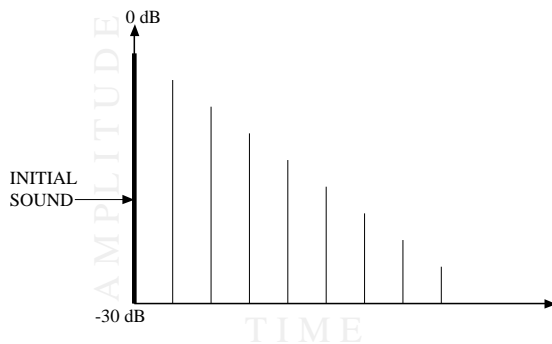

Fig 3-9
Feedback (Tap #): Controls the amount of feedback, or number of repeats, in the delay line. In multi-tap delays, this Parameter controls the feedback amount of the last tap in the series. Variable from 0 (Off) to 100%. See fig. 3-9.
**Repeat Hold:** This is the infinite repeat Parameter. When turned on, the delay taps will repeat indefinitely until the REPEAT HOLD Parameter is disengaged. See fig. 3-9.